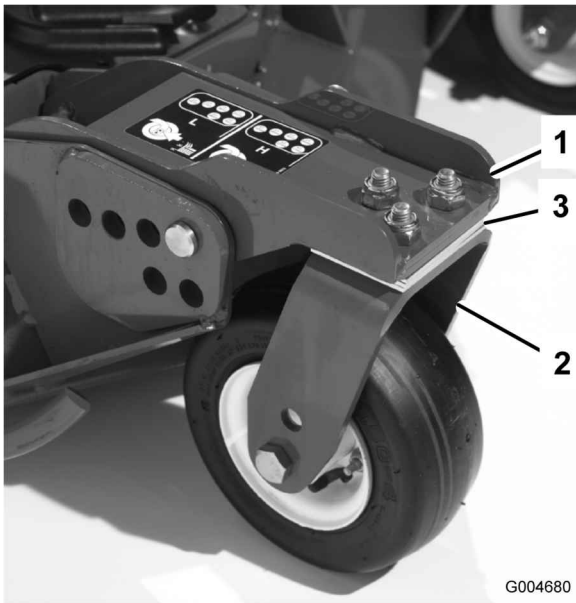

Figure 27
Rotate blade of each spindle until the ends face forward and backward. Measure from the floor to the front tip of the cutting edge. Adjust 1/8 inch shims on front castor arm(s) to match height of cut to decal (Figure 27). For the outside blade spindle only, refer to Adjusting the Cutting Unit Pitch procedure in *Mower Maintenance*, page 50.
3. If the inside edge of the side cutting unit is too high relative to the outside edge of the front cutting unit, remove one 1/8 inch shim from the bottom of the front inside castor arm on the side cutting unit (Figure 27). Recheck measurement between outside edges of both side cutting units and inside